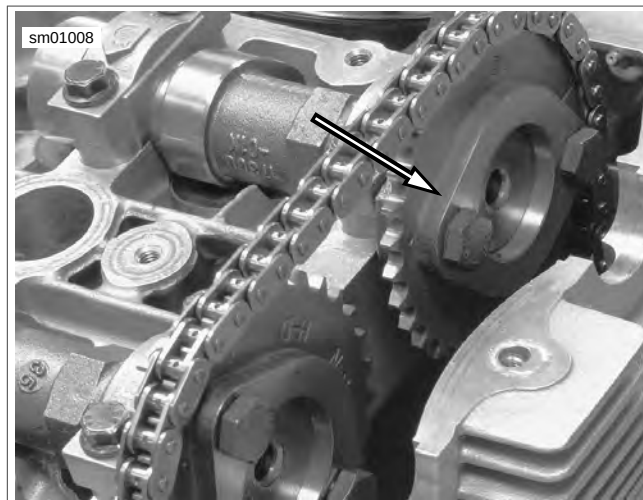

Figure 3-42. Spacer Boss on Outside (front cylinder cam sprocket)
- See Figure 3-42. The front cylinder cams are identified by the spacer boss location on the outside of the cam sprockets.